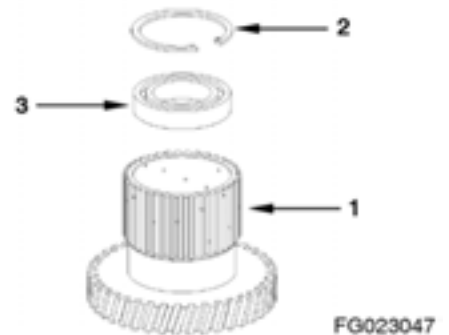

Figure 118
- Snap retaining ring (2, Figure 118) out of the idler gear (1, Figure 118) and remove ball bearing (3, Figure 118).